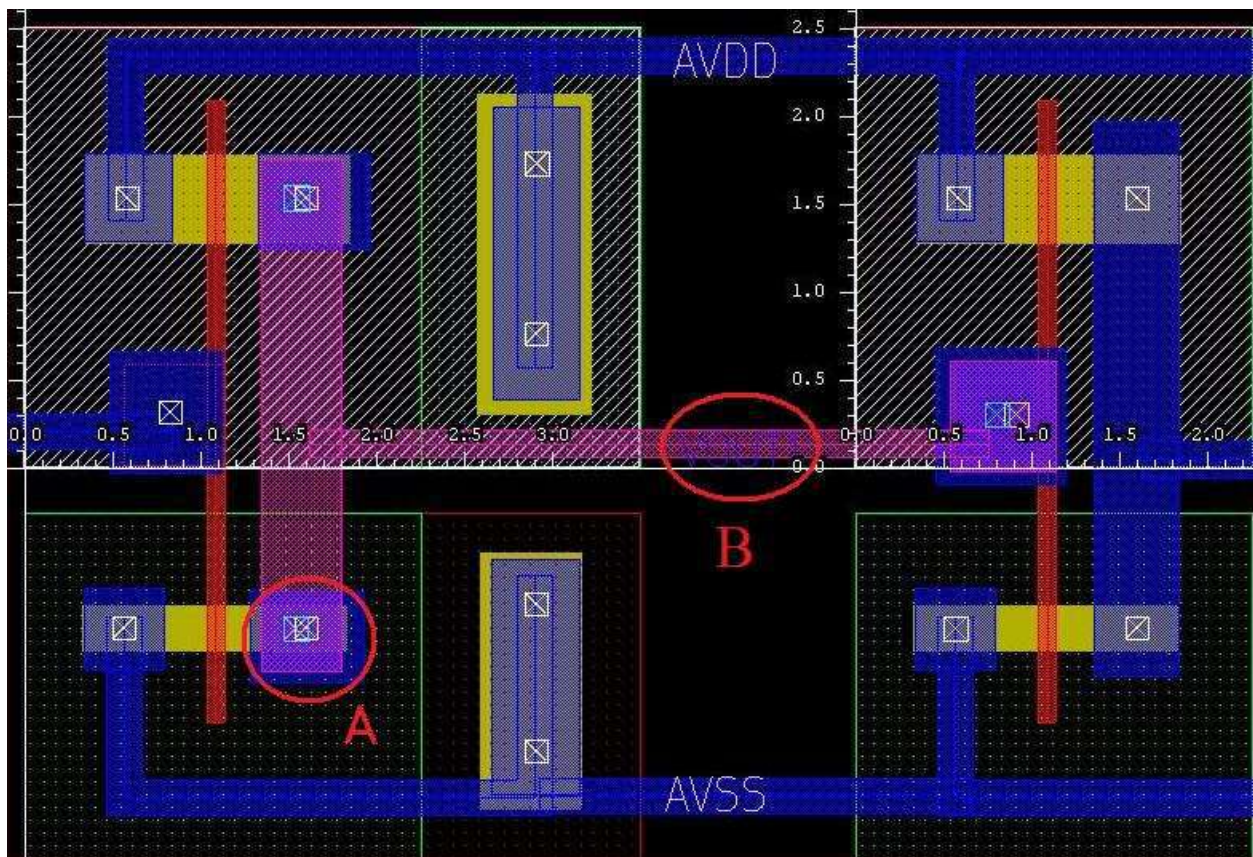
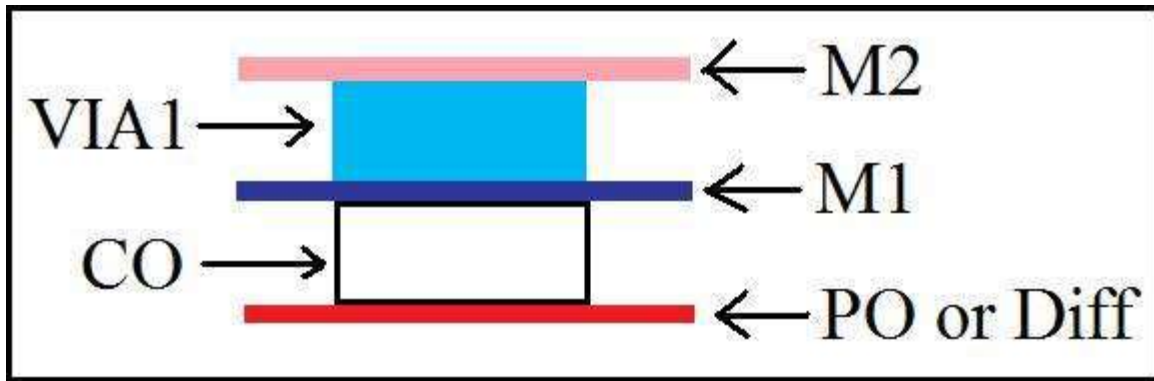
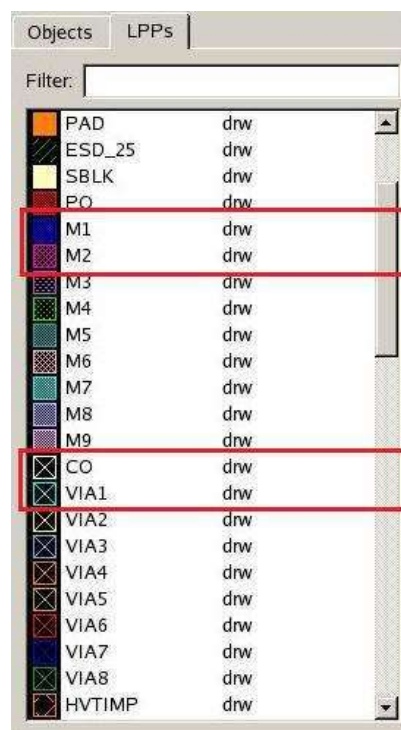

Figure 106: Using M2 in Layout
Figure 107: Layers Needed to Connect M2 to Poly
Figure 108: Selecting VIA1 and M2 Layers
In the ring oscillator layout, M1 (blue layer) is replaced with M2 (pink layer). See figure 106 for reference. Also note that M1 layers can run under M2 layers without physically connecting unless there is a VIA1 layer in between them.
In order to connect different layers to each other, all metal layers and contacts/VIAs must exist in between them. For example, to connect a metal 2 layer (M2) to diffusion (DIFF), a contact layer (CO), metal 1 layer (M1), and a VIA1 layer must exist between them. See figure 107 for reference. Also see figure 106 in circle A for a layout drawing example.
When dealing with multiple layers, be sure that enough metal/poly/diff surrounds the contact or VIA connection on each side as per the design rules for using higher layers. Also note that VIA connections have specific dimensions that need to be observed when drawn. M2 and VIA1 layers can be found under the LPP panel as shown in figure 108. Also note that every layer has its own pin for labeling. For example, use the M2PIN layer (violet color) to label the M2 layer. See figure 106 in circle B for a layout example.